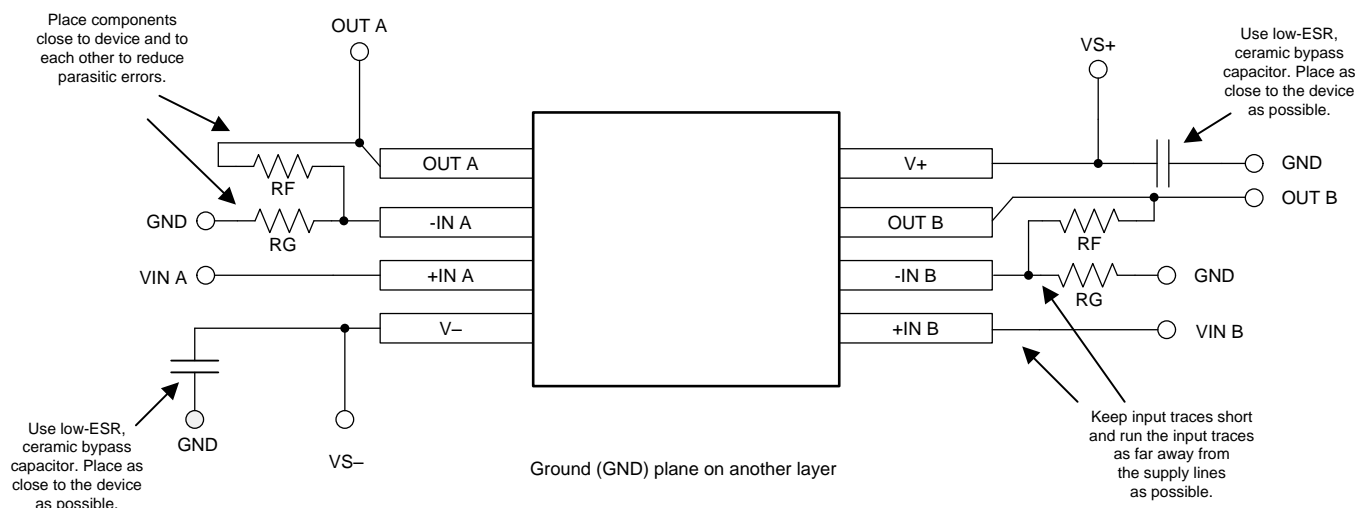

Figure 5. Layout Example
- Place the external components as close to the device as possible. As illustrated in Figure 5, keeping RF and RG close to the inverting input minimizes parasitic capacitance.